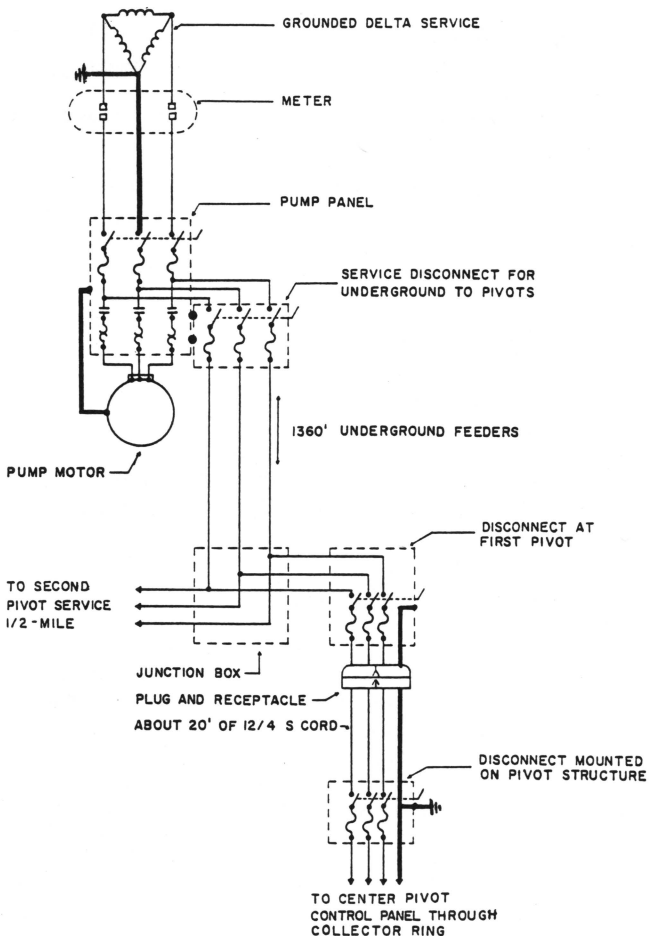

Figure 1. This is an improperly grounded irrigation system. Note that grounds at the pivot and pump motor are not bonded to the service ground.
- Grounding is in accord with NEC Section 675-9, which says a separate non-current-carrying equipment grounding conductor needs to be run with all circuit conductors. Figure 1 shows incorrect use of the grounded conductor as an equipment grounding conductor.